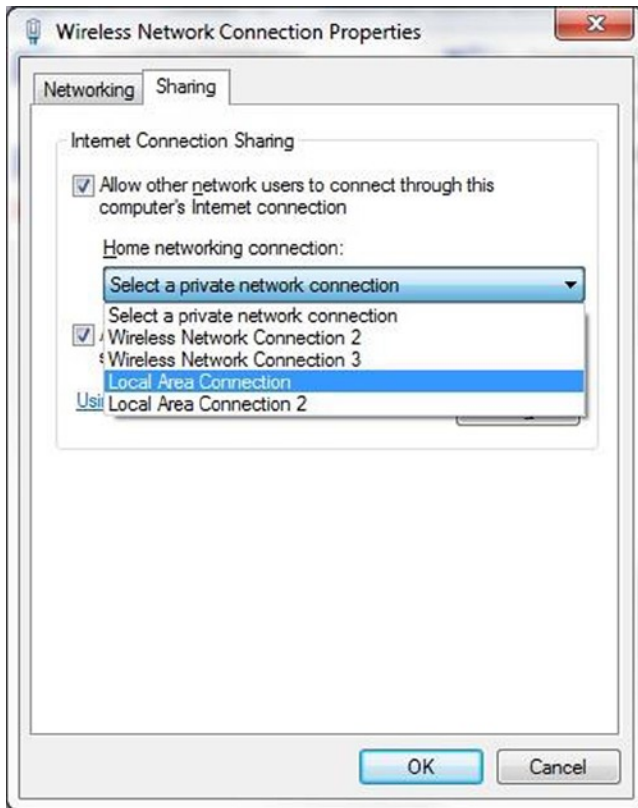

Figure 5-9. *Sharing the Internet connection*
7. To share the Internet connection, access your adapters again by choosing Control Panel ► Network and Internet ► Network and Sharing Center and clicking Change Adapter Settings. But now, right-click in the adapter of your computer that provides Internet access to you and select Properties. Then click in the Sharing tab and check the option to share the Internet in the listbox. Figure 5-9 shows an example that uses a wireless adapter to access the Internet and a Local Area Connection for Intel Galileo.